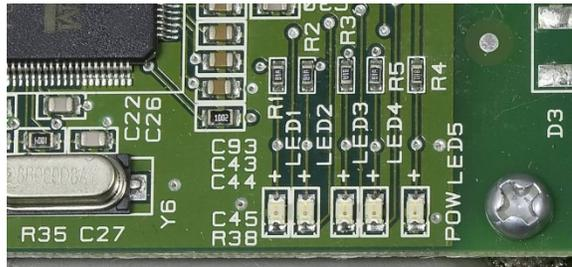

Figure 3-31: ACM500 Data LEDs Location (top) and detail (bottom)
6. Monitor the LEDs on the ACM500 main board as shown in Figure 3-31. If the ACM500 is connected properly and the IND560x is programmed correctly, the LEDs will flash.